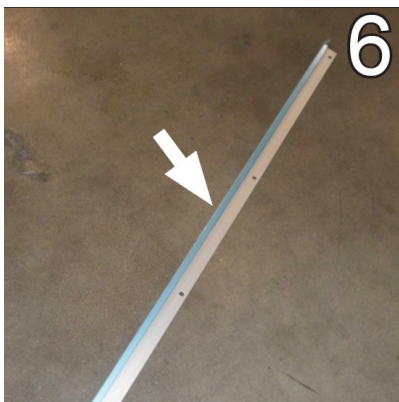

Fig. 72 Secure frame to partition
6. For case-to-case trim-out (no foam partition), carefully push the provided T-bar (Fig. 72) between the frames. Secure with the provided T-bolts.